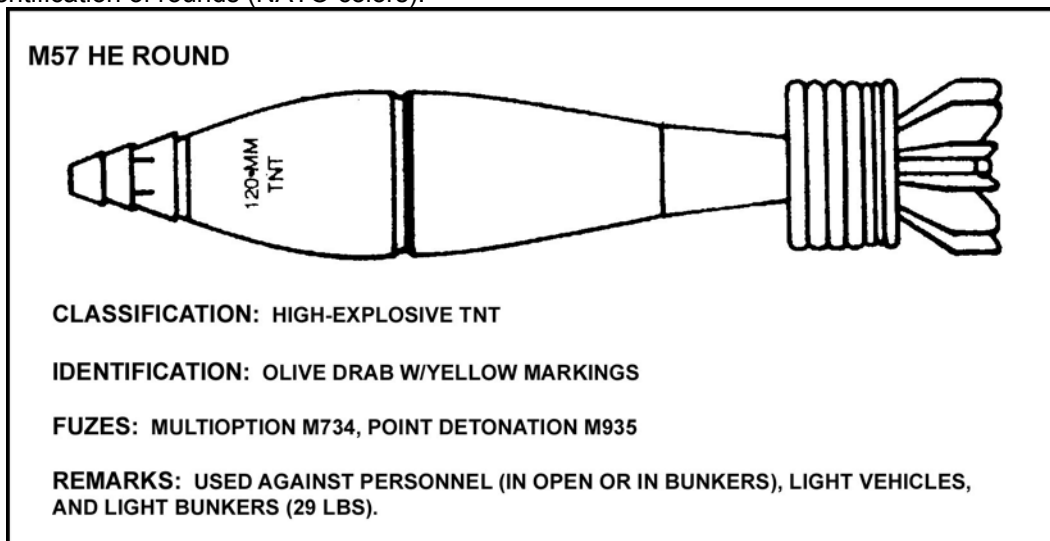
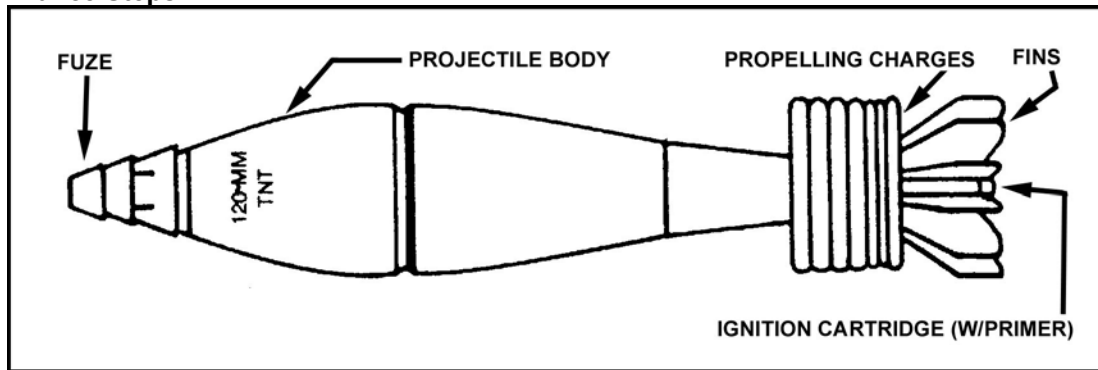

Figure 1. High-explosive round.
Figure 3. Parts of the 120-mm round.
2. Authorized rounds. High-explosive, illumination, and smoke rounds may be fired in the 120-mm mortar (Figures 1, 2, and 3). Each of the rounds is made up as shown in Figure 3.
- (1) Each of the rounds is made up as shown in Figure 3.
- (2) The only odd charge is charge 1.
- (3) If given a charge 4, remove 3 of the white charges. This would leave a charge 4 on the round.